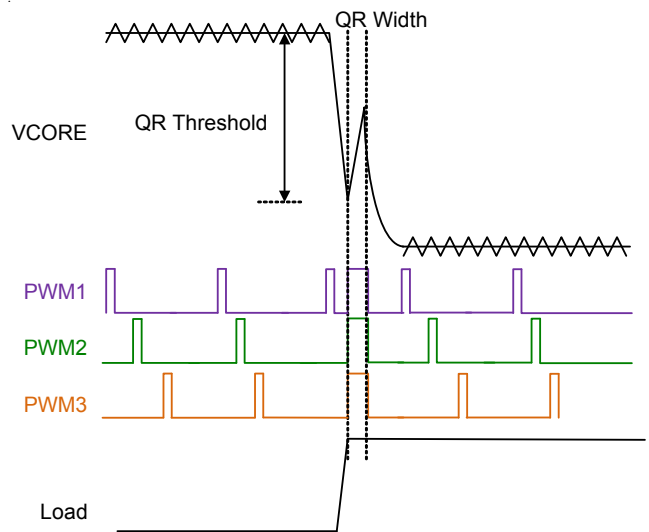
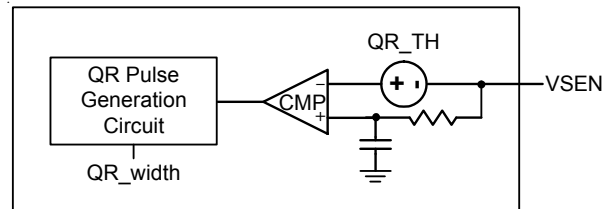

Figure 22. Quick Response Mechanism
Figure 23. Simplified QR Trigger Schematic
When the transient load step-up becomes quite large, it is difficult for loop response to meet the energy transfer. Hence, that output voltage generate undershoot to fail specification. The RT3606BC has Quick Response (QR) mechanism being able to improve this issue. It adopts a nonlinear control mechanism which can disable interleaving function and simultaneously turn on all UGATE one pulse at instantaneous step-up transient load to restrain the output voltage drooping. Figure 22 shows the QR behavior.
The output voltage signal behavior needs to be detected so that QR mechanism can be triggered. The output voltage signal is via a remote sense line to connect at VSEN pin that is shown in Figure 23. The QR mechanism needs to set QR width and QR threshold. Both definitions are shown in Figure 22. A proper QR mechanism set can meet different applications. SET2 can set QR threshold and QR width by internal current source 80µA with multi-function pin setting mechanism.